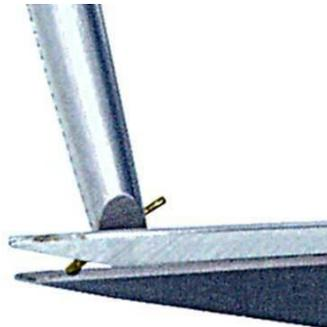

Fig. 9-6
1. Clamp the wire with the tweezers so that it projects beyond its edge for 2÷3 mm (Fig. 9-6).